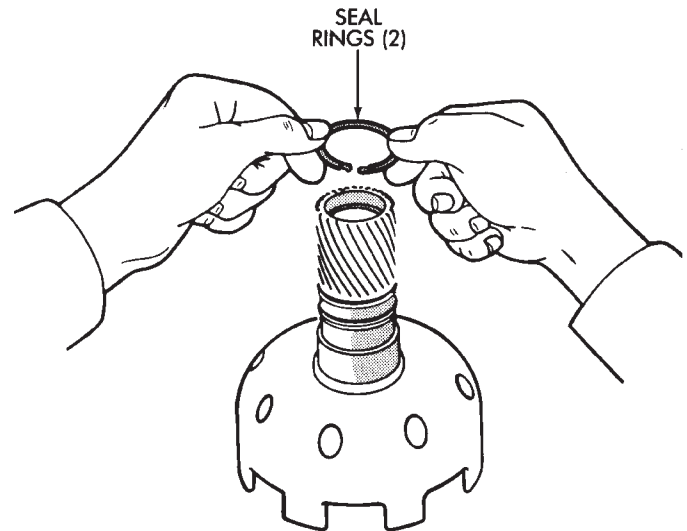

Fig. 5 Removing/Installing Sun Gear Seal Rings
- (4) Remove two seal rings from sun gear (Fig. 5).